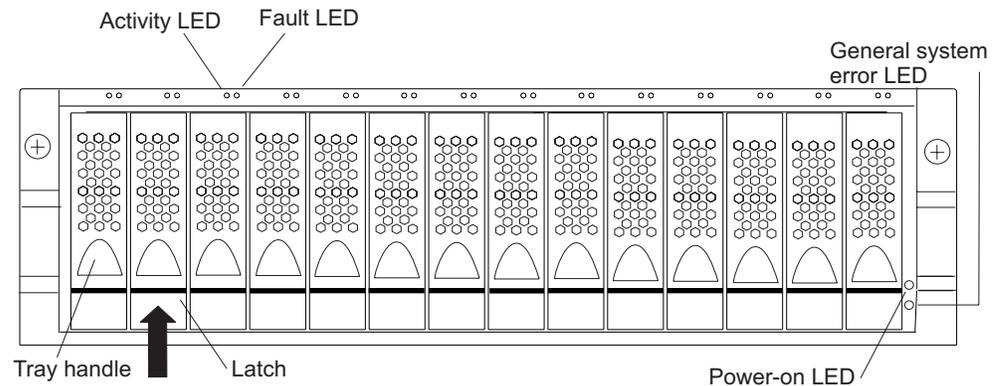

Figure 38. Hot-swap hard disk drive LEDs
2. Check for Fault LEDs shown in Figure 38. If any amber LEDs are lit, see “Solving problems” on page 73.
- a. Release the latch on the drive CRU by pinching together the blue line on the tray latch and the finger hole on the tray handle, as shown by the arrow in Figure 38.